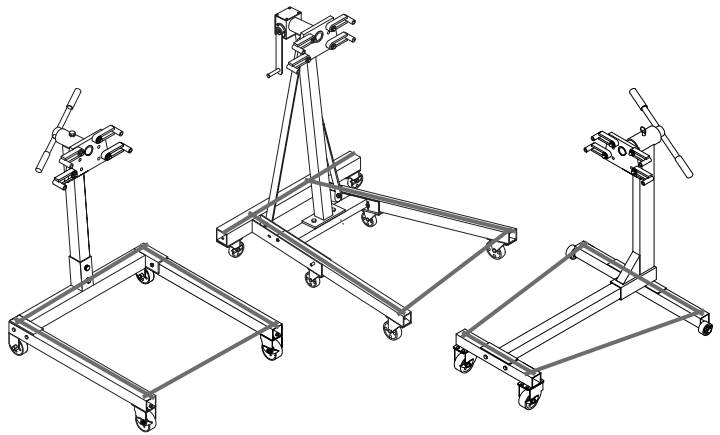

Figure 9 - Peripheral Loading Limit of Engine Stand
**⚠ WARNING: ALWAYS** verify that the product and the application are compatible. **NEVER** load the engine stand with an engine that extends beyond an imaginary line drawn connecting the centerlines of the front and rear wheel/ caster axles as show in Fig 9.